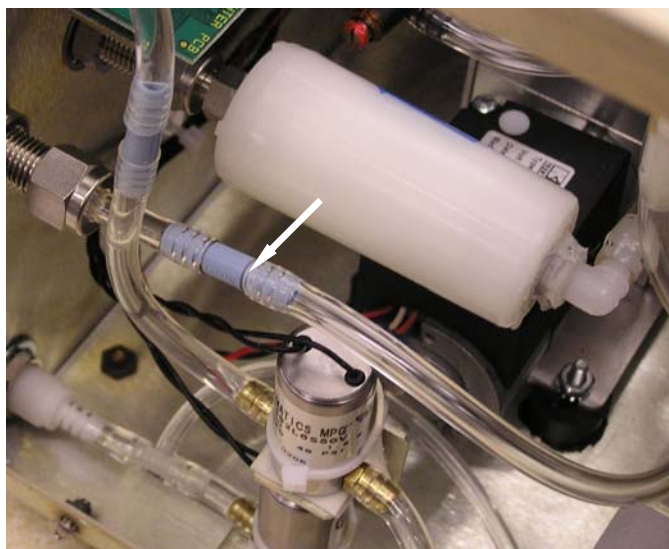

Figure 8-4
The Makeup air filter is identified in Figure 8-4 and is referenced in the flow schematic, Figure 5-1. This filter is used to protect the variable orifice controlling flow at a nominal 1.2 L/min. The Makeup Air Filter is used during the low-flow operation mode. This filter is generally not replaced unless the instrument sample flow is compromised as the filter loads. Makeup air is sampled from ambient environment.
3. Locate the filter in Figure 8-4.